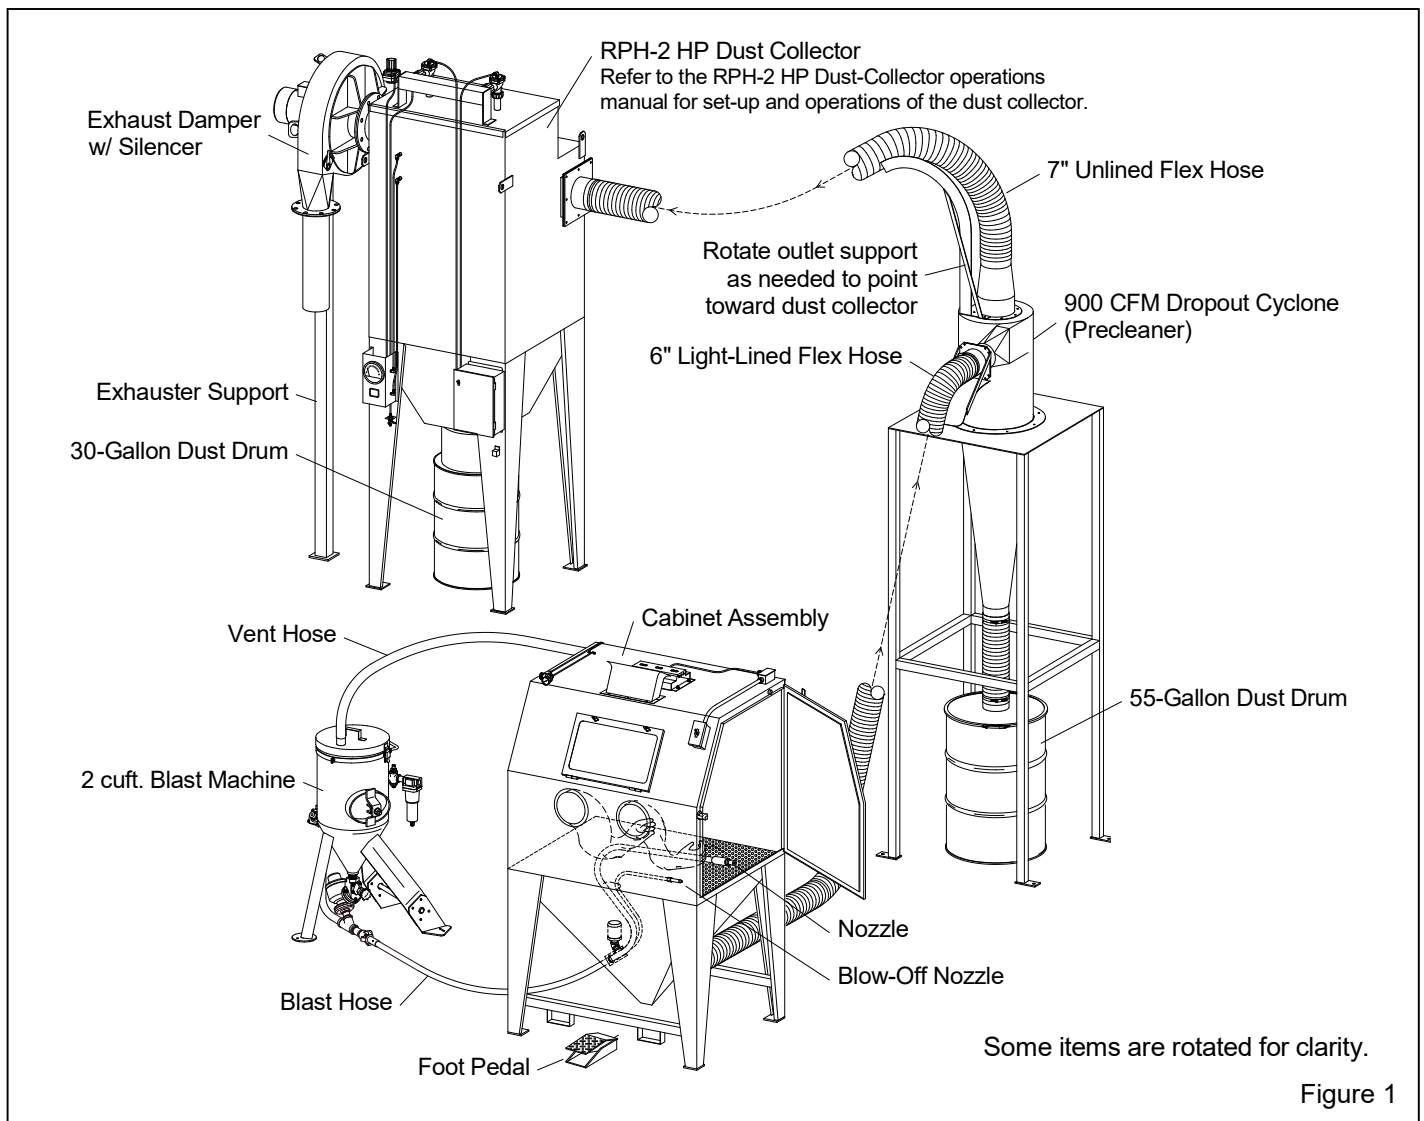
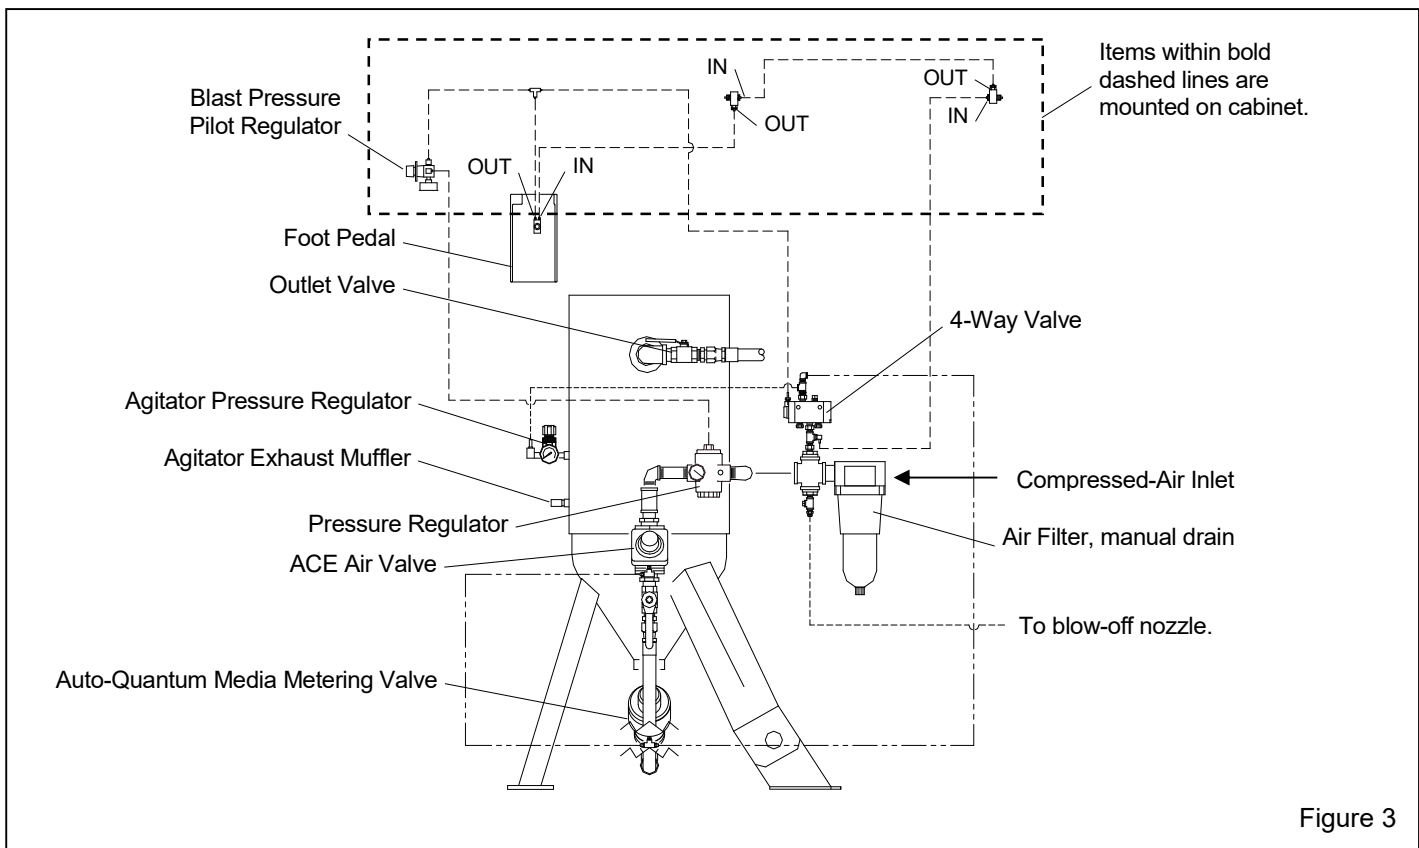

Figure 1
Figure 3
- Figure 1 - Typical layout of all components
- Figure 3 - Blast machine and control schematic
2.1.1 Refer to Figure 1 for the general arrangement and Figure 3 for the control-line schematic. Select a location where compressed air and electrical service are available. The cabinet location must comply with OSHA and local safety codes. Allow for full access to all doors and service areas and for efficient handling of large parts. Provide enough clearance around the dropout cyclone and dust collector to remove the dust drums. Ideally, locate the blast machine directly behind the cabinet with the blast-hose connection toward the cabinet. The cyclone may be rotated to make flex hose connections with as few bends as possible. Determine the best location for all components and position them before making compressed-air connections and electrical connections.
2.3 Connect Blow-Off Hose: Attach the 1/2" blow-off hose coming from the cabinet hopper, to the compatible fitting on the blast machine piping, between the air filter and pressure regulator. Refer to the schematic in Figure 3.
2.5 Connect Urethane Control Tubing: Uncoil the 1/8" urethane control tubing. The end of each tubing is numbered 1, 2 or 3. Connect the tubing to the adaptor with the corresponding number on the pressure regulator, piping, and 4-way air valve. Refer to the schematic in Figure 3 to confirm the connections.